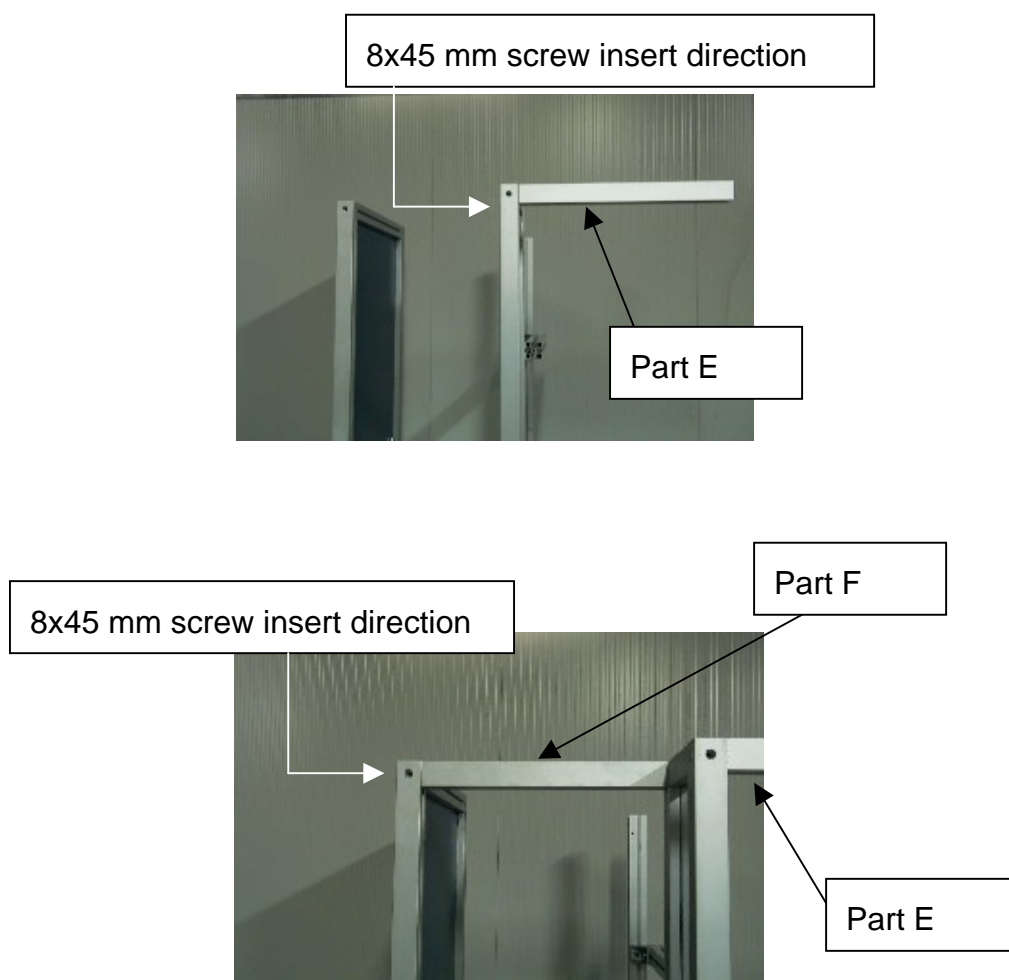

*Figure 6.*
*(Refer to figure 6 at the bottom of this paragraph)*